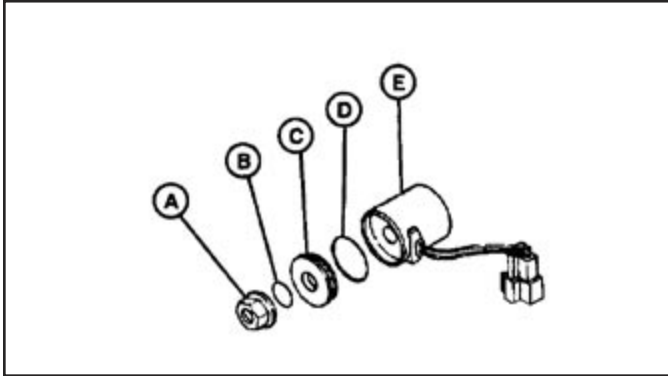

Fig. 8, Solenoid Coil Disassembly
2. Remove nut (A) and O-ring (B). (Fig. 8)